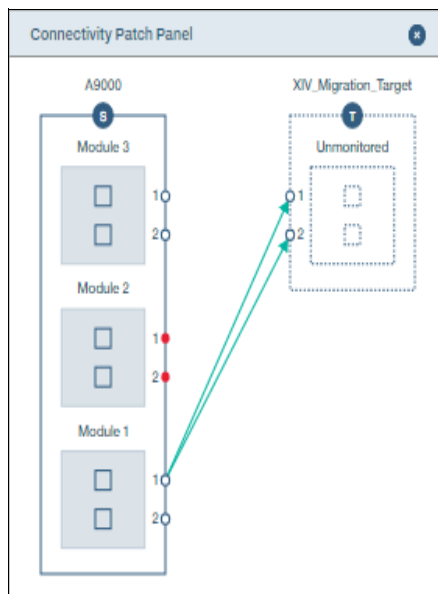

Figure 8-13 Connectivity details
- c. If the connection between IBM FlashSystem A9000 and the target system (the XIV Storage System in this example) is successful, the connection is displayed as connected (with a check mark) and you can select **Connectivity Details** to view the connectivity, as shown in Figure 8-13.